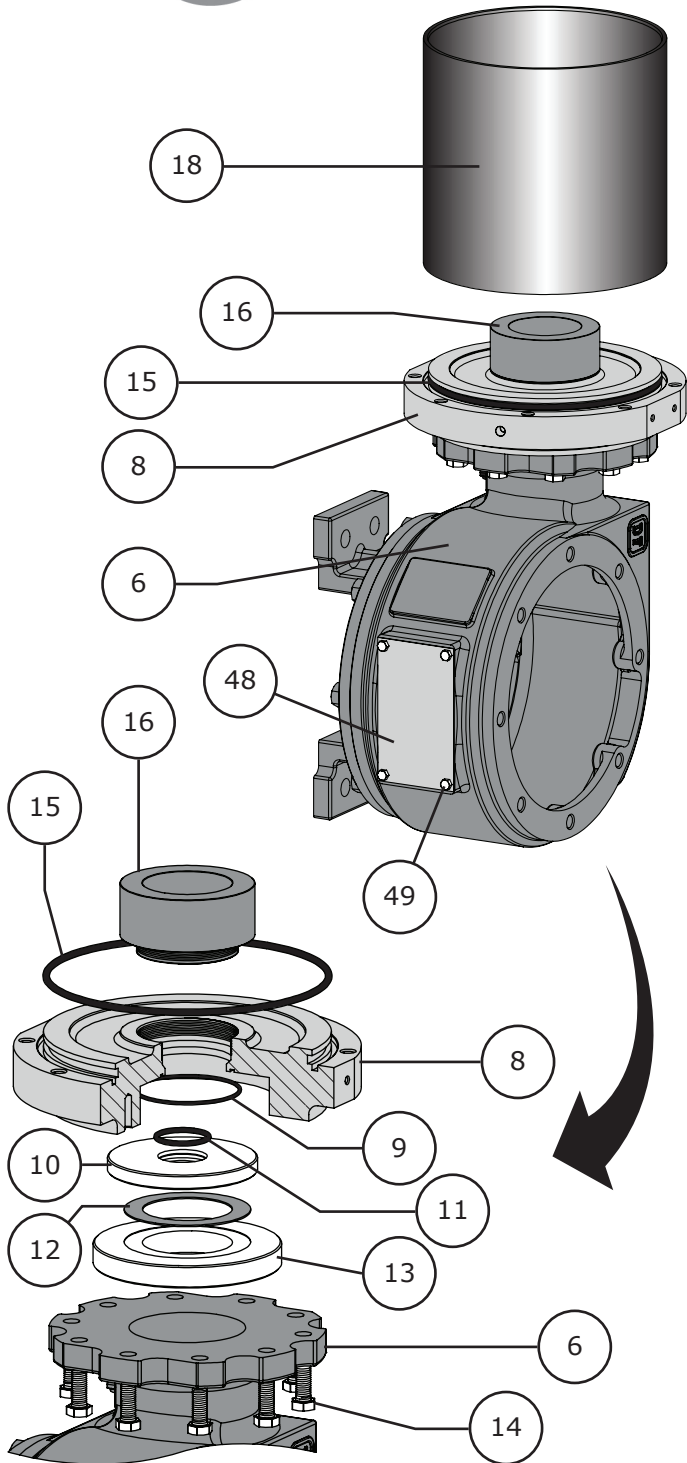

Figure 18 Cylinder Base Removal
- 5 Remove the cylinder (Key 18). Refer to Figure 18.
- 9** Remove the cylinder base (Key 8) from the housing (Key 6). Use caution when removing the cylinder base as the sliding seal (Key 10) may stick to the cylinder base as it is being removed. Refer to Figure 18.